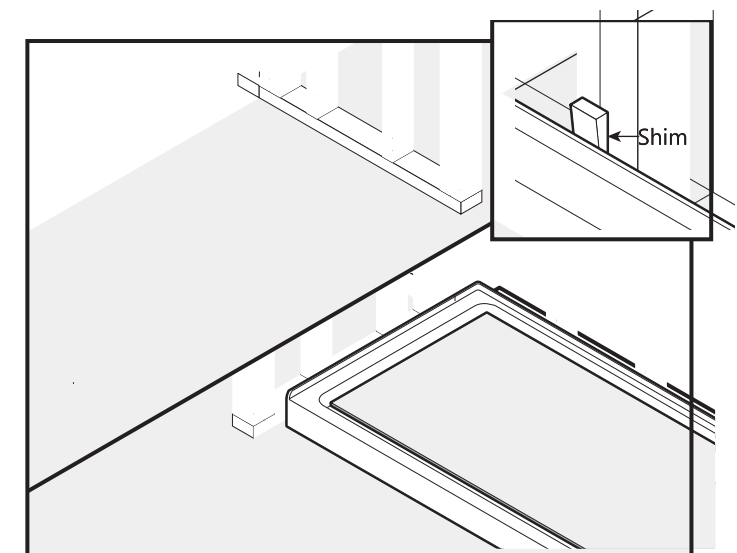

Fig. 5
- It is recommended not to stand in base while securing to wall. Set base in corner and press it into mortar. (Fig 5)